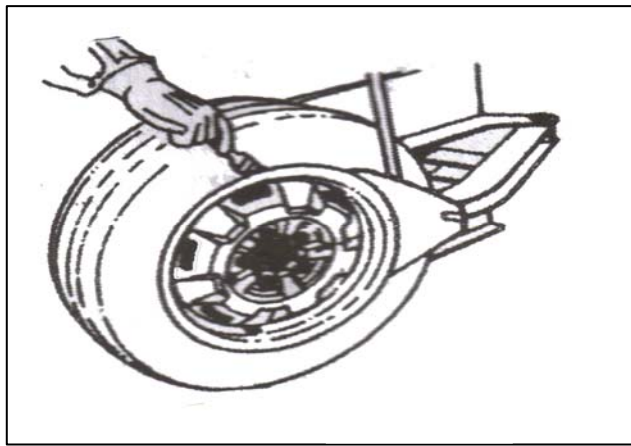

FIG 18
4.1.2 Place the tire between then bead breaking blade and tire pressing runner clog.(fig18) Then step down the tire press pedal to detach the rim from the tire(fig2-10 or 3-10). Repeat the same operation on the other parts of the tire to make the tire completely detached from the rim. Place the wheel with the tire detached from the rim on the turntable and step the clamp pedal(fig2-9; 3-9) to clamp the rim. You can select the outer clamp and inner clamp to clamp the